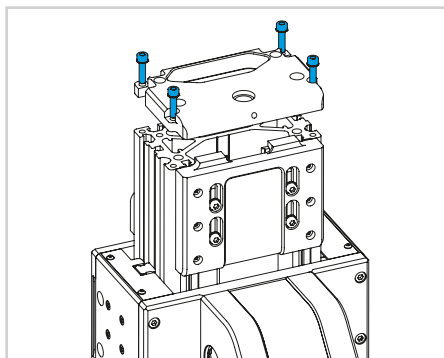

Fig. 4
- 3) Untight the 4 screws and remove the upper plate at the end of the aluminum profile (see Fig.4).